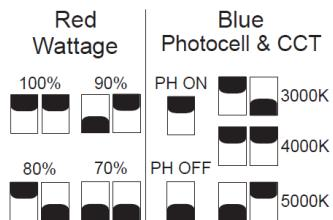

Figure 2
- 4:** Adjust dip switch position for desired setting. (Figure 2)